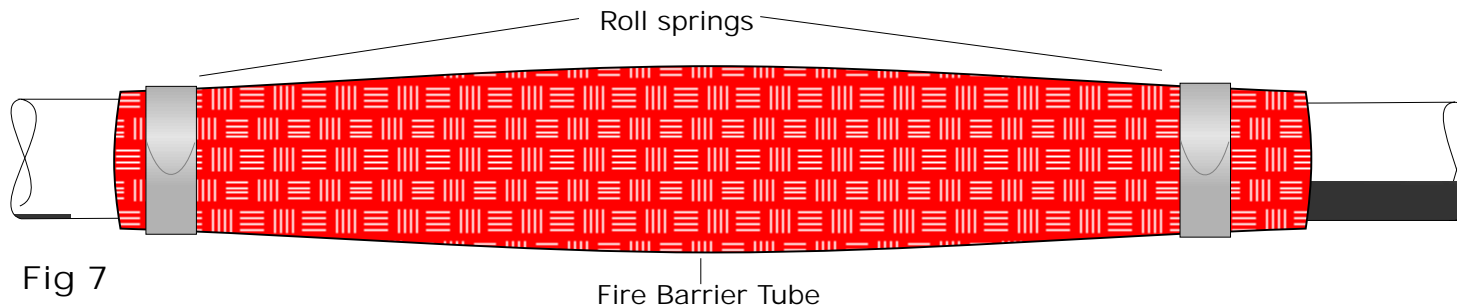

Fig 7
10. If Joint type SPA NHF is supplied, this incorporates a fire barrier tube. Joint type SPA NH is supplied without it. Position the red silicone coated fire barrier tube across the joint gap so that it overlaps equally distant at both sides. Secure at each side with a stainless steel roll spring as shown in Fig 7.